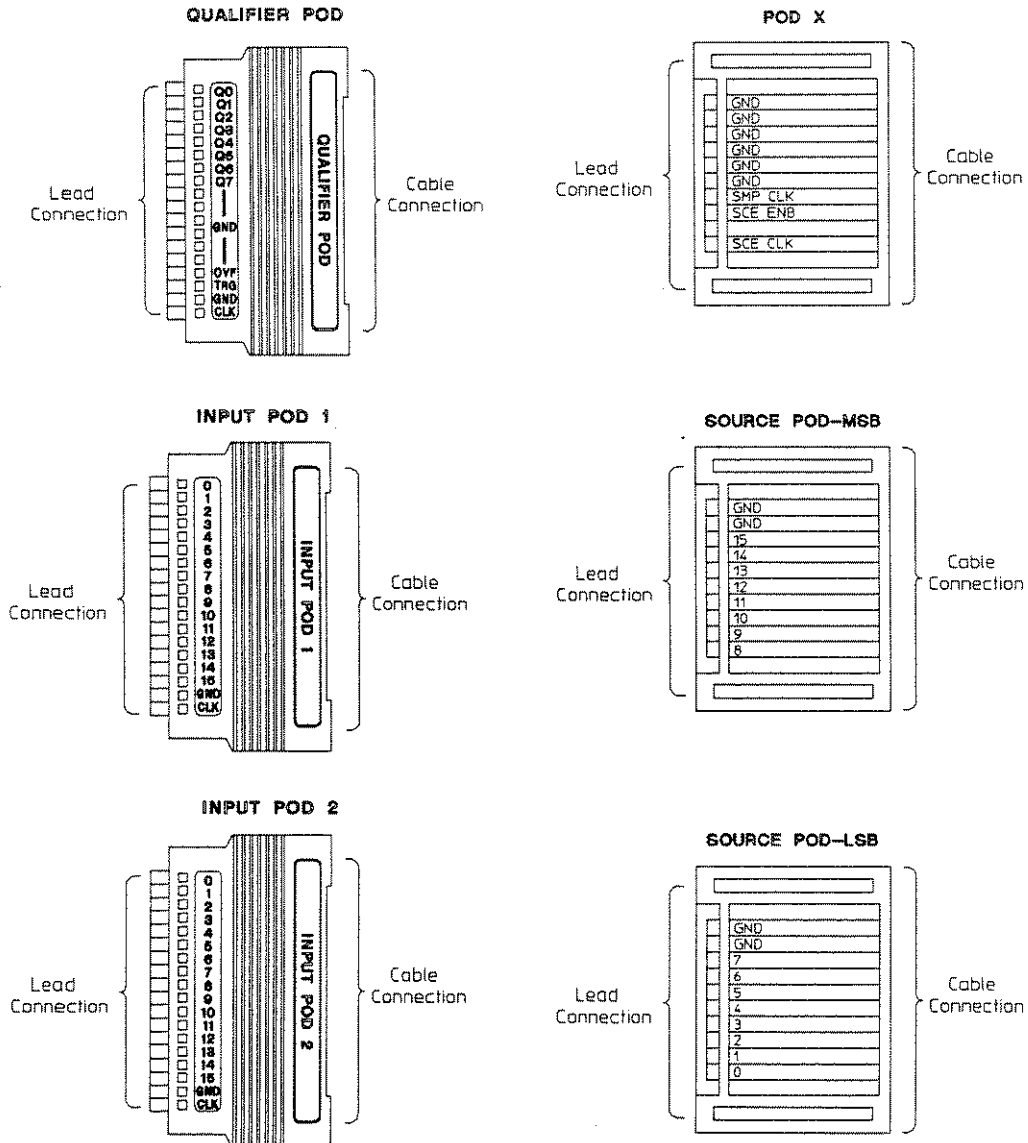

Figure 4-13. Pod Line Description
6. Refer to Figure 4-13 for the description of each pod line. Connect the cables using the grabbers as indicated in Table 4-10. Connect the lines in each row together.